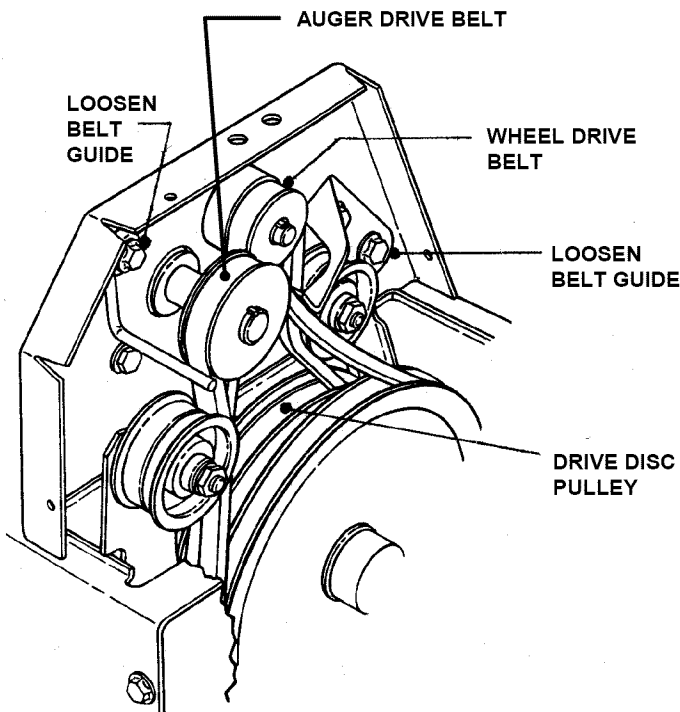

FIGURE 4.6
3. Loosen belt guide closest to the auger drive belt. See Figure 4.6.
1. Remove wheel drive belt from around engine pulley. See Figure 4.6.